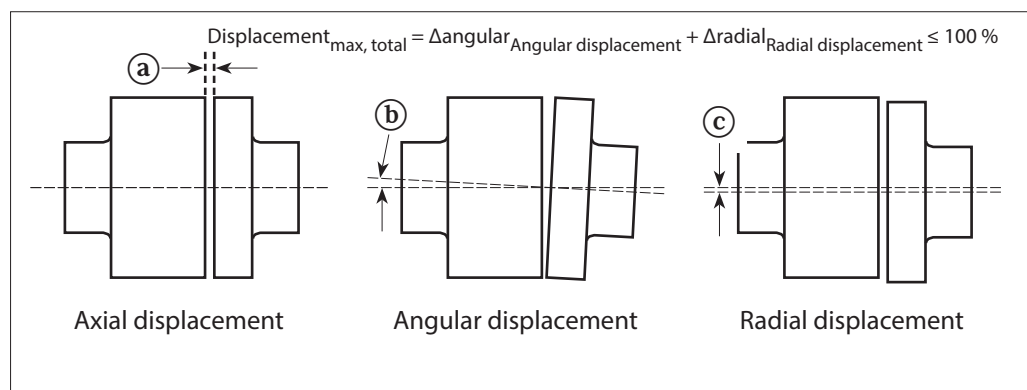

Fig. 5.3: Displacement options and maximum permitted proportional displacement value calculation
The sleeve encloses the thread, seals with an O-ring on the bottom and top and acts as a locking nut. The top sleeve seals the thread turns above the baseplate or above the motor traverse with an O-ring (see Fig. 5.3).
The spacer has an O-ring on the top and it seals the spacer on the pump housing. The bottom of the spacer is sealed by the O-ring that sits on the sleeve on the articulated foot. O-rings are not shown in Fig. 5.3.
- ▶ Use spacers and sleeves on the 3-A standard articulated foot fitted under the pump housing (see Fig. 5.3 (1))
- ▶ Under the motor traverse drive and the 3-A standard articulated foot (see Fig. 5.3 (2)) use:
- ▶ For the articulated foot as per 3-A standard with sleeve and top sleeve (see Fig. 5.3 (2)) use:
- ▶ When assembling the pump and drive, you must comply with the maximum permitted displacement values ① (axial displacement), ② (angular displacement) and ③ (radial displacement) as per Fig. 5.3 or Tab. 5.7